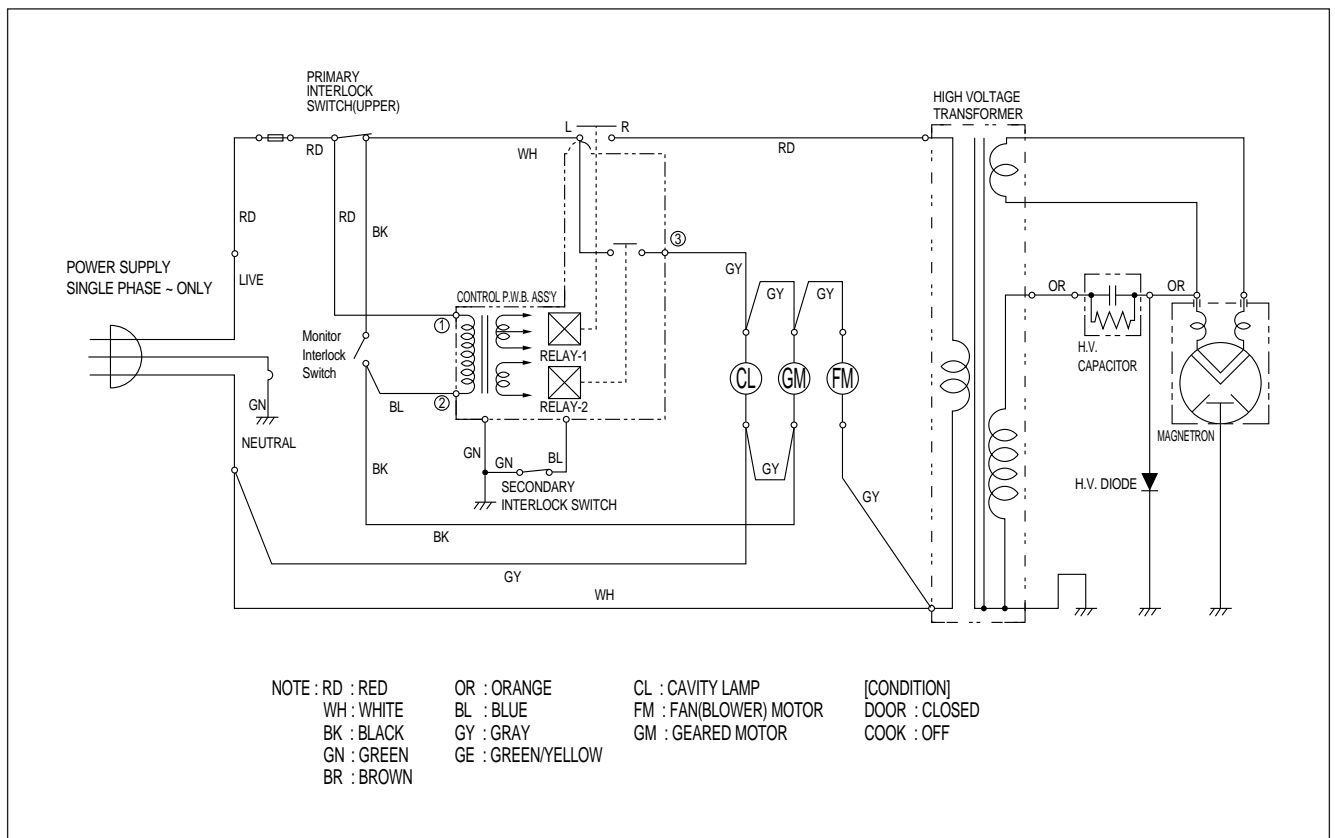

Fig. 1
Refer to the “WIRING DIAGRAM” (Fig. 1) on page 20.
- 1) 220VAC is applied to the high voltage transformer through the contacts of RELAY “1”(See Fig.1)
- 6) If the contacts of primary interlock switch malfunction the 15A fuse blows open due to the large current surge caused by the short circuit activation, and this in turn stops magnetron oscillation (Fig. 1).